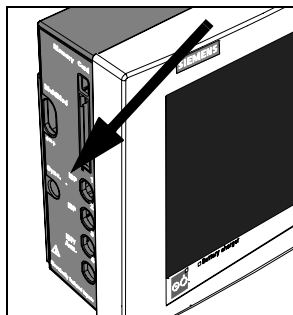

Figure 1-3 Left Side-Panel
- Press firmly on the dot on the lower center of the panel between IBP1 and IBP 2 (see arrow in Figure 1-3), to release the latch.